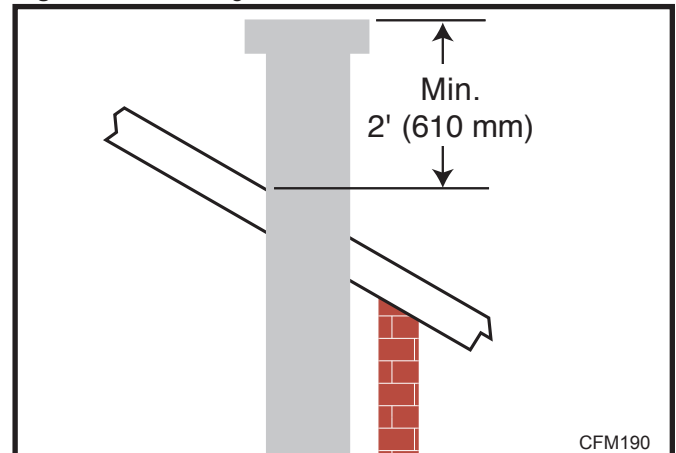

Fig. 60 Minimum termination to roof clearance.
- The minimum height of the vent above the highest point of penetration through the roof is 2' (610 mm). (Fig. 60)
10. Add additional vent lengths for proper height. (Fig. 60)